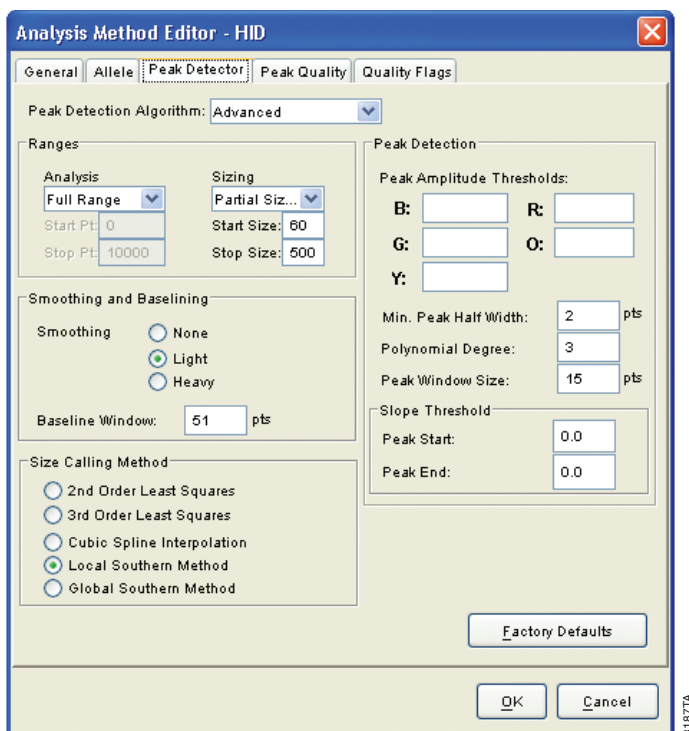

Figure 19. The GeneMapper® ID ‘Peak Detector’ tab.
10. Select the ‘Peak Detector’ tab (Figure 19). You will need to optimize these settings. In-house validation should be performed.
10. Select the 'Peak Detector' tab (Figure 19). You will need to optimize these settings. In-house validation should be performed.